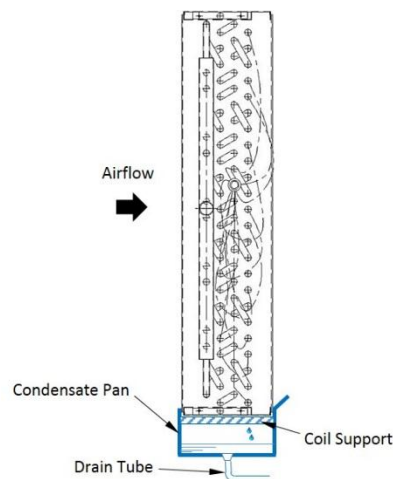

Fig.3
- Install condensate pan drip tray below coil (sold separately) (Fig. 3)